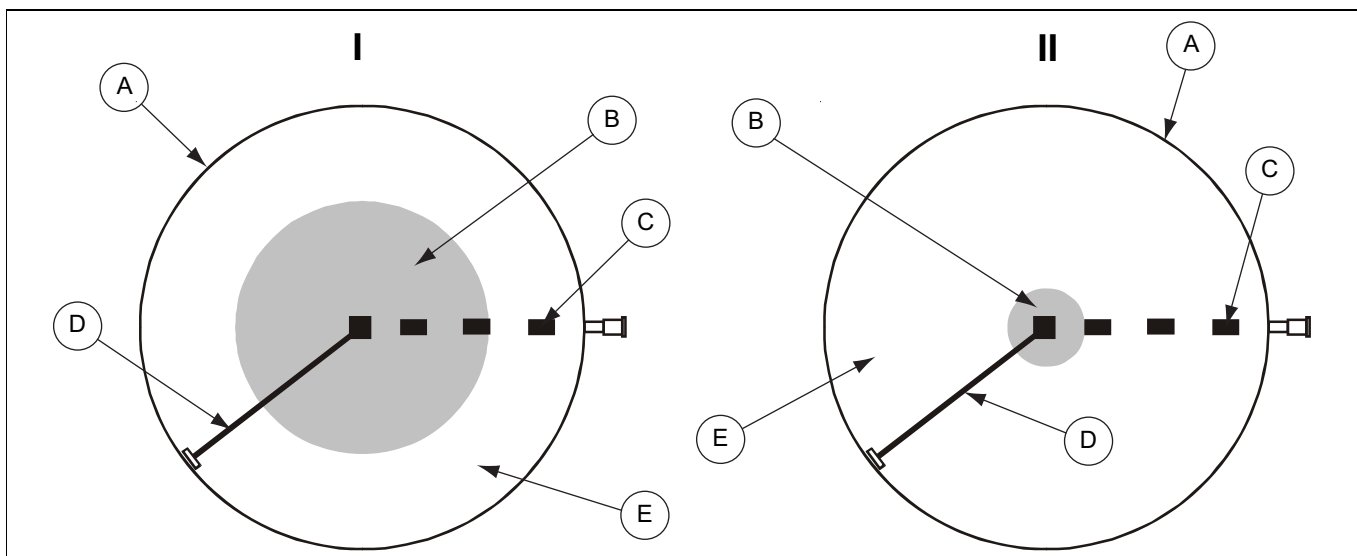

Figure 5H Top View of Bin
2. Clean (scoop and sweep by hand) the outer area of the floor into a circular pile towards the center of the bin. (See Figure 5H (I).)
6. Scoop and sweep by hand the remaining floor area to the center of the bin. (See Figure 5H (II).)